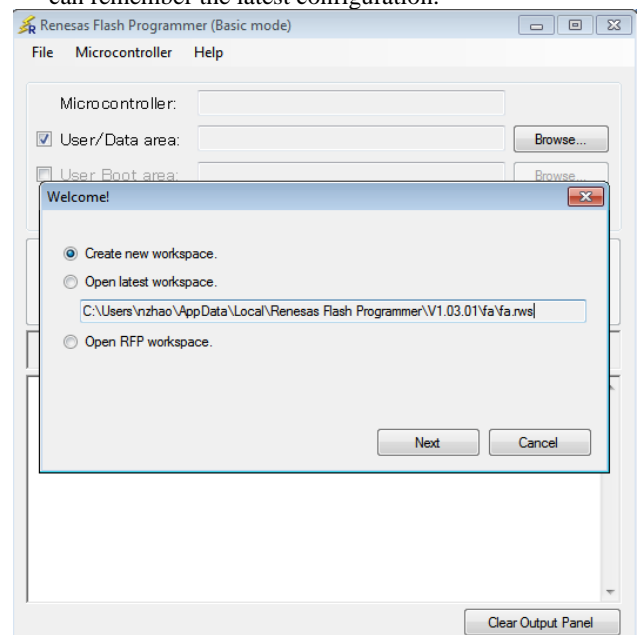

Figure 15. Microcontroller Programmer Startup
2. Run Renesas Flash Programmer V1.03, select **Create new workspace** if you use it for the first time and click **Next** (See Figure 15). If you are debugging a project by yourself and would like to update firmware without changing the project storage path, then you can select **Open latest workspace** to faster process flow since the programmer can remember the latest configuration.